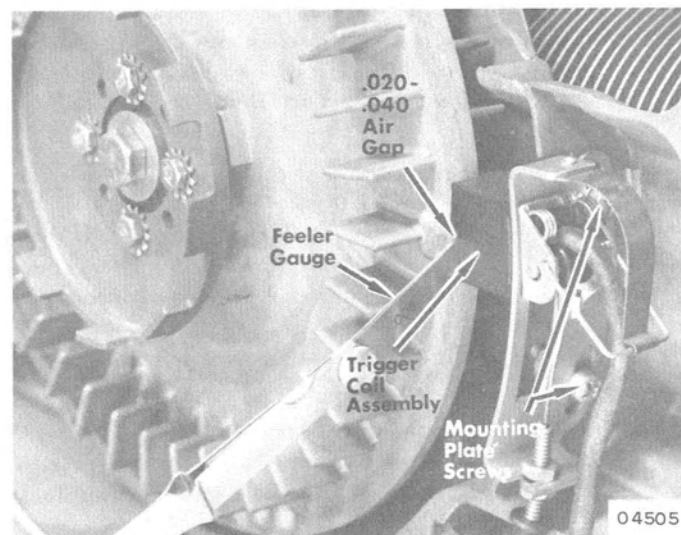

Figure 2. Checking Air Gap (Model 220 Shown)
- c. Using a feeler gauge, check "air gap" between magnets in blower and poles in trigger coil. (Figure 2) If necessary, add or remove shim under trigger mounting plate to maintain .020"-.040" air gap.